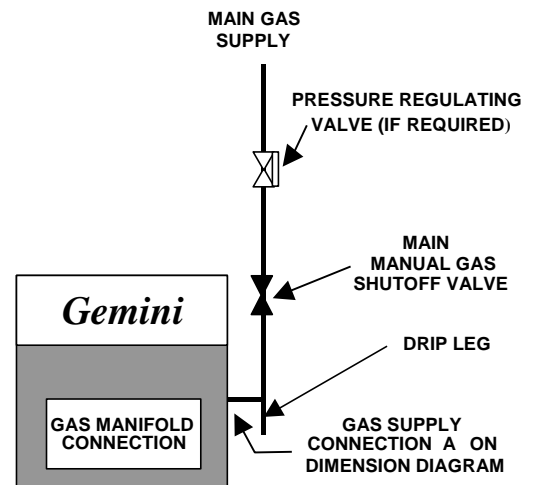

Figure 2-8 Recommended Gas Supply Line Layout
- 3). Refer to Figure 2-8 for the recommended layout of the gas supply lines. Refer to spec sheet depending on which model you have, Detail **A** for the location of the ¾ inch gas inlet of the steamer.
- 4). Install a manual shut off valve between the gas supply and the steamer. See Figure 2-8. From now on this valve will be referred to as the Main Manual gas valve.
- 5). It is recommended that a sediment trap (drip leg) be installed in the gas supply line. See Figure 2-8.